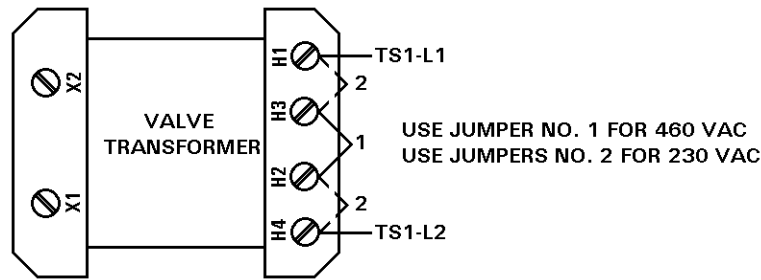

Figure 4.1.2 Valve Transformer jumper settings
3. **Valve Transformer:** Jumpers on the valve transformer H1, H3, H2, and H4 must be configured to match the line voltage, Figure 4.1.2. The standard valve transformer included with the EN1000/EN1001 (either 50 VA or 150 VA) is configured for 240VAC or 480VAC input, for 380 or 575 VAC operation, consult the factory.